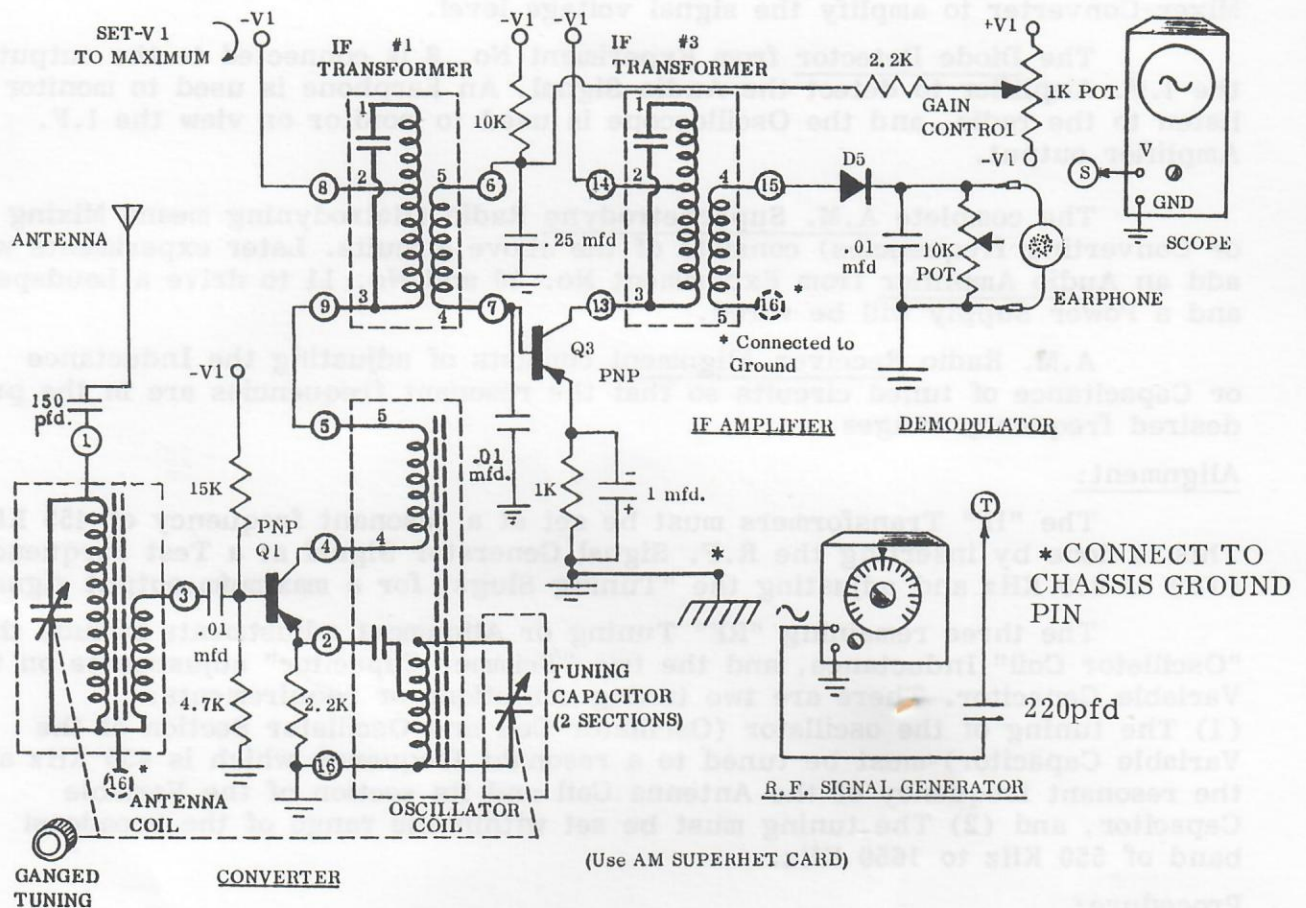

Figure 22-1 RECEIVER - ALIGNMENT-EXPERIMENT
2. Wire the Radio circuit shown in Figure 22-1.